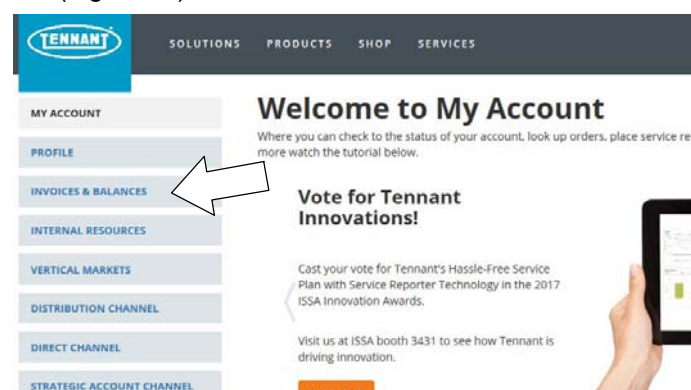

Fig. 30
2. Once logged in to the “My Account” website, click on the “INTERNAL RESOURCES” link as shown below (Figure 30).